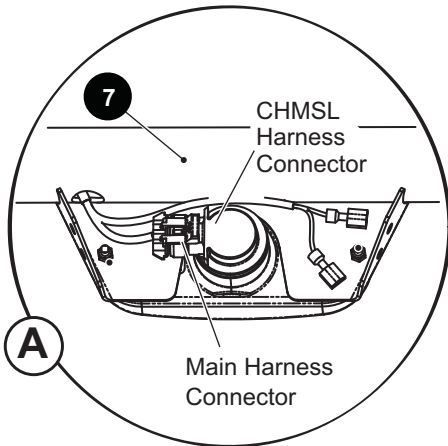

Fig. 3 CHMSL
- Mount the Center High Mount Stop Light (CHMSL) (10) to the existing mounting bracket on the center of the extended cab cross-tube (7) (Ref. Fig. 3). Make sure the wiring is on the same side as the exposed